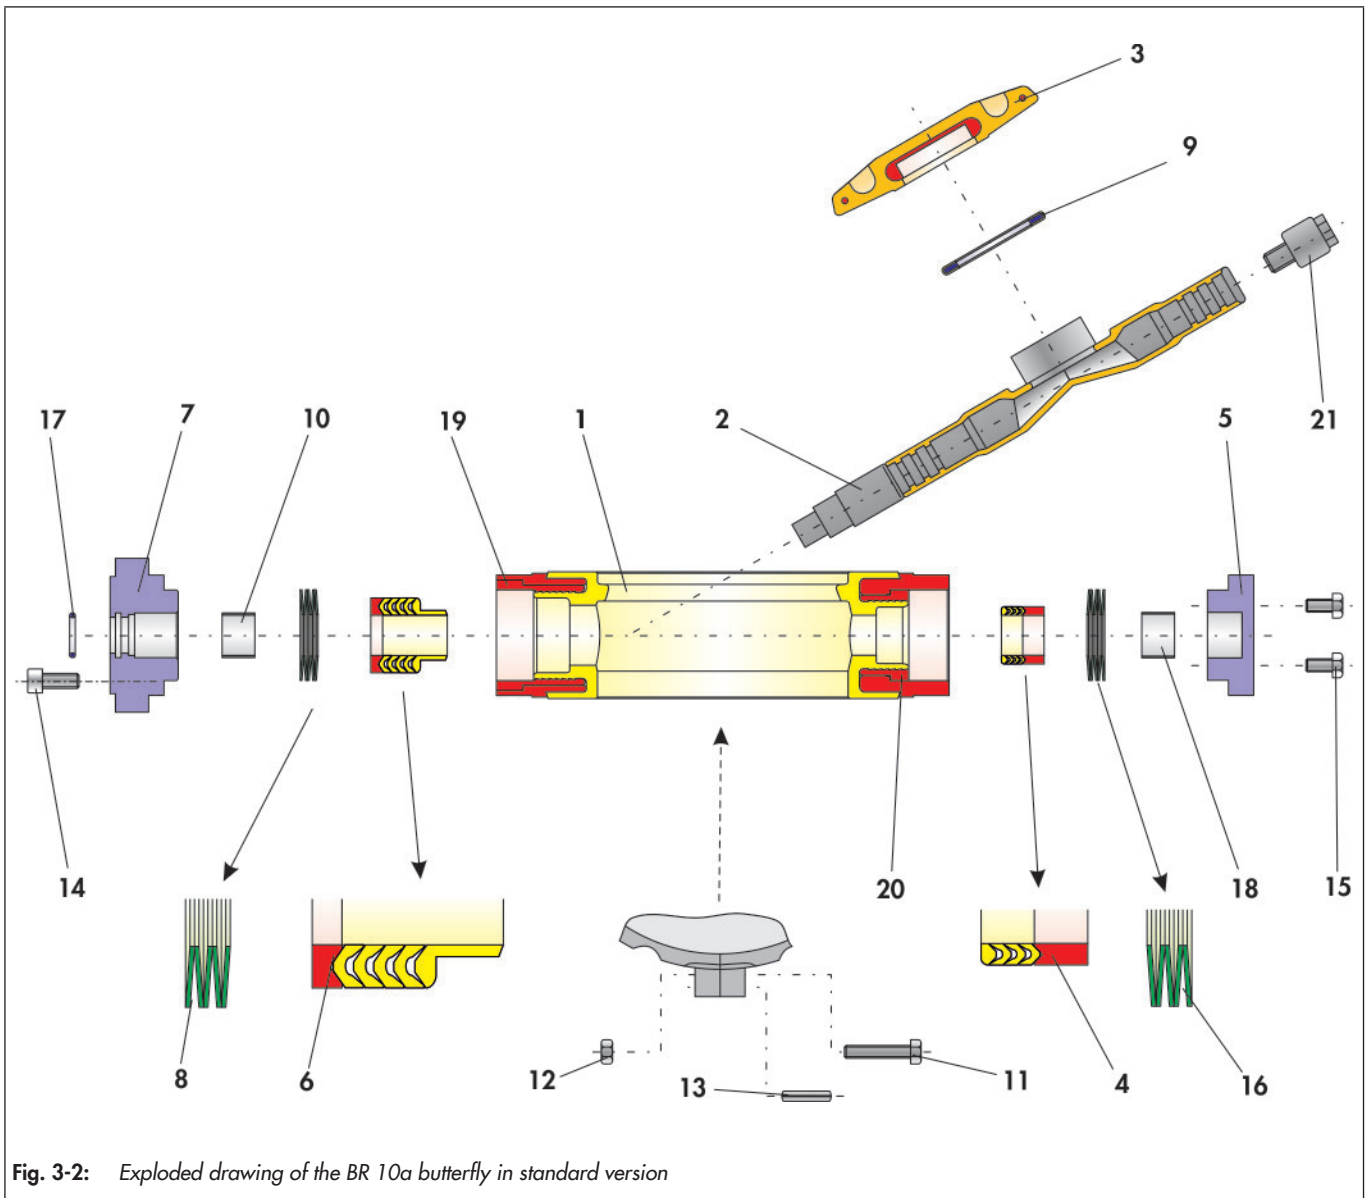

Fig. 3-2: Exploded drawing of the BR 10a butterfly in standard version
- ⇒ The bearing screw (21) is screwed into the mounted control shaft ( 2 ) and tightened.
- ⇒ The base ring of the V-ring packing (6) is pushed over the free end of the shaft to the appropriate position in the valve body (1) by means of an assembly sleeve.
- ⇒ The PTFE V-ring packing (6) is now pushed over the shaft into the body bore and pressed home with an assembly sleeve. The arrangement of the packing is shown in the detail drawing Fig. 3-2.
- ⇒ The spring washers (8) is pushed over the shaft and positioned at the appropriate place on the packing. The arrangement of the springs washers ase also shown in the detail drawing Fig. 3-2.
- ⇒ The bearing bush (10) is pressed into the guide bush (7).
- ⇒ The O-ring (17) is also placed in the appropriate position of the guide bush.
- ⇒ The screws (14) are then equally and alternately tightened.
- ⇒ The PTFE V-ring packing (4) is now pushed over the shaft into the body bore and pressed home with an assembly sleeve. The arrangement of the packing is shown in the detail drawing Fig. 3-2.
- ⇒ The spring washers (16) is pushed over the shaft and positioned in the appropriate place on the packing. The arrangement of the spring washers are also shown in the detail drawing Fig. 3-2.
- ⇒ The bearing bush (18) is pressed into the lower gland (5).
- ⇒ The pre-assembled lower gland is carefully placed onto the body and adjusted with the screws (15).
- ⇒ The screws (15) are then equally and alternately tightened.
- ⇒ The sealing element (9) is laid onto the thread for the valve disc.
- ⇒ The valve disc (3) is now screwed onto the control shaft.